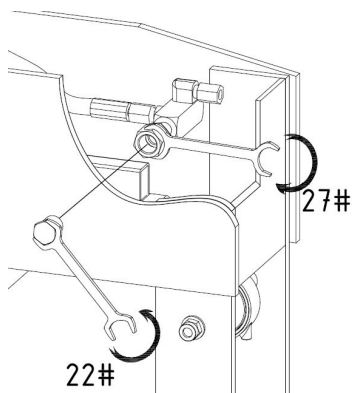

Fig. 05
- Assemble the nylon ring to gauge fitting, then put the pressure gauge and twist tight. (Fig. 05/06)